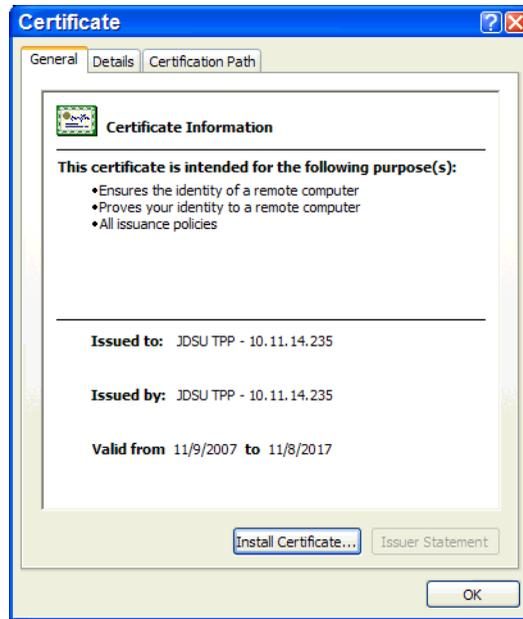

Figure 52 Certificate Information dialog box
- 4 In the File Download - Security Warning dialog box, click **Open**. A certificate Information dialog box (Figure 52) is displayed.
12 In the Certificate Information dialog box (Figure 52), click **OK**.